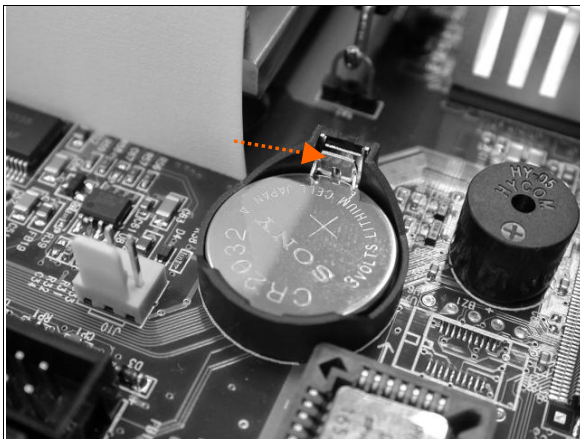

Fig. 2-6
1. Press the metal hook backward. (**Fig.2-6**)